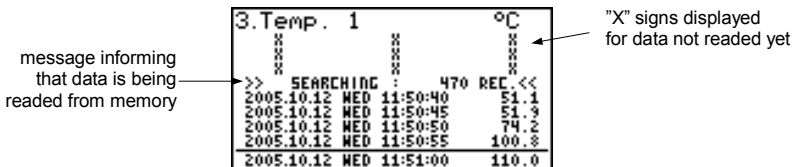

Fig. 6.16. Message displayed while downloading data to be displayed
-  During the download of data to be displayed from the unit's memory (recorded measurement results), an appropriate message is displayed instead of the measurement result (**Fig. 6.16**). "X" is displayed for data that has not been downloaded yet.